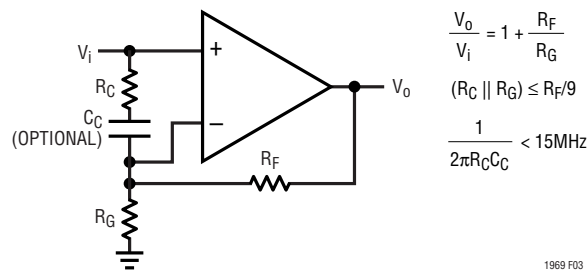
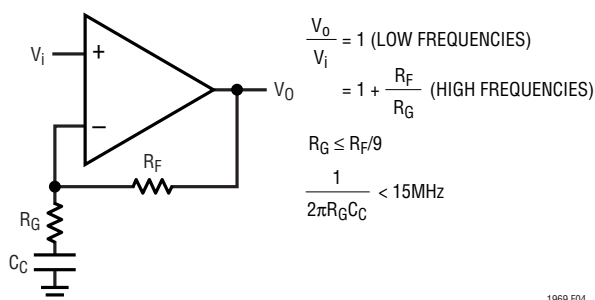
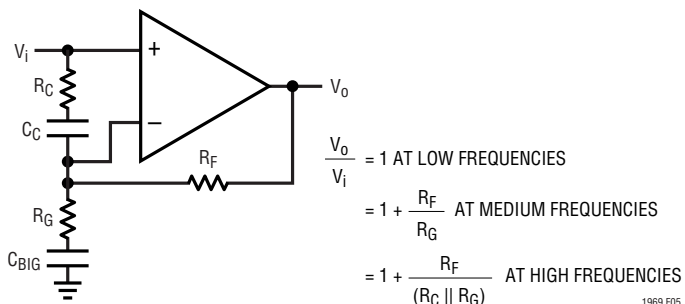

Figure 3. Compensation for Noninverting Gains
Figure 4. Alternate Noninverting Compensation
Figure 5. Combination Compensation
Figure 3 shows compensation in the noninverting configuration. The  $R_C$ ,  $C_C$  network acts similarly to the inverting case. The input impedance is not reduced because the
Another compensation scheme for noninverting circuits is shown in Figure 4. The circuit is unity gain at low frequency and a gain of  $1 + R_F/R_G$  at high frequency. The DC output offset is reduced by a factor of ten. The techniques of Figures 3 and 4 can be combined as shown in Figure 5. The gain is unity at low frequencies,  $1 + R_F/R_G$  at mid-band and for stability, a gain of 10 or greater at high frequencies.
-73dBc for all swings up to 16VP-P into the line. The gain of this circuit from the differential inputs to the line voltage is 10. Lower gains are easy to implement using the compensation techniques of Figure 5. Table 2 shows the drive requirements for this standard circuit.